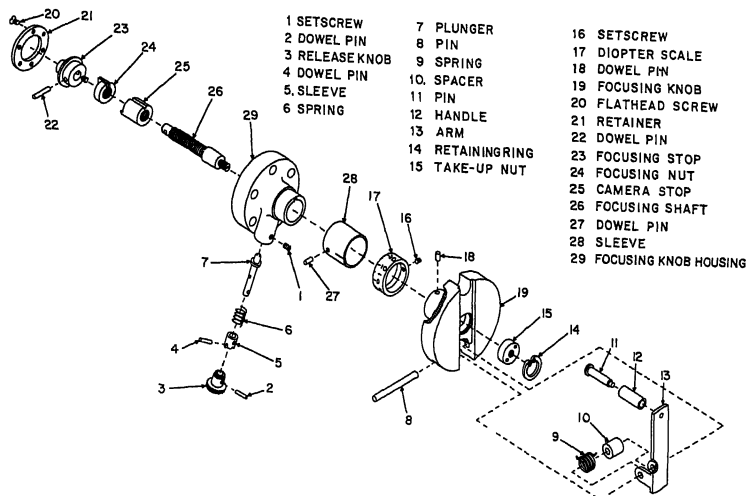

Figure 12-15.—Focusing knob assembly.
The focusing knob (fig. 12-15) is more complicated than you might expect, but it does more than provide a focus range of +1.5 to -3 diopters. Since the 6th erector (focusing erector) of a periscope can be moved about 10 inches, the focusing knob must be able to provide the necessary movement, with suitable internal stops to prevent overtravel or damage to related components.
1. Remove the detent plunger assembly by backing out screw 1, which also secures bushing 5 in the focusing knob housing (29). Further disassembly of the plunger assembly, if necessary, is apparent in figure 12-15.
2. Turn the focusing knob clockwise to the stop, extend the handle (13), and back the nut (15) out to contact the retainer ring (14). The inside of the focusing knob has a tapered socket that matches the tapered end of the focusing shaft (25). Backing nut 1 out against the retainer should separate the focusing knob from the focusing shaft. If not, tap the focusing knob with a fiber mallet to release it.
3. Remove the six screws from the retainer (21) and withdraw the focusing shaft and stops as a unit (22, 23, 24, 25, and 26). Do not disturb the relationship of these parts unless repair is necessary.